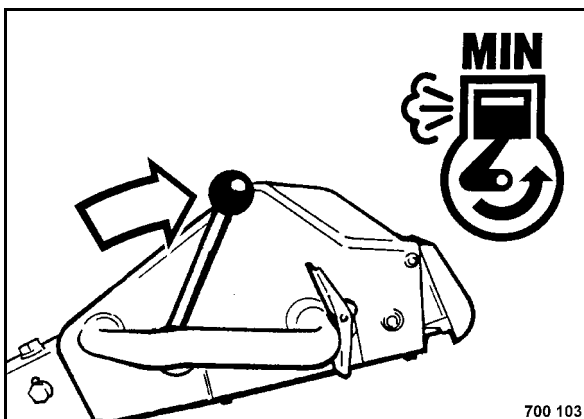

Fig. 33
- Set the throttle lever (Fig. 33) to position "MIN".